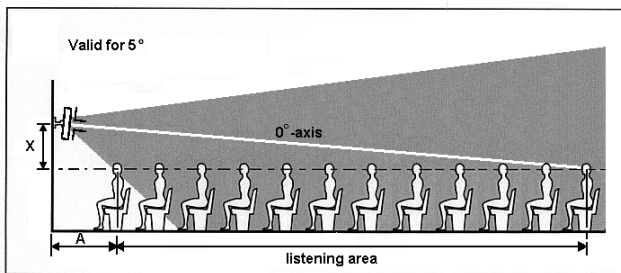

Figure 2: side view of loudspeaker array radiation mounted to the wall with a 5° angle
When less sound pressure level variation is desired, an angle of 5° is recommended. Note that this reduces the size of the total listening area compared to approach 1, and that the space very close to the loudspeaker array ('A' in figure 2) is not part of the listening area. Diagram 1 shows the relationship between 'A' and the mounting height of the loudspeaker array when using a 5° installation angle.
3. Refer to diagram 1, and trace upwards from the maximum distance on the horizontal axis. From the vertical intersection with diagonal B-line, you go horizontal to the vertical axis. The X-value (height of loudspeaker array mounting bracket above the listening plane, 'X' in figure 1) is standing on this axis. The horizontal intersections with other diagonal lines provide information about the dimensions of the listening area. These numbers are related to figures 2 and 3 (see also example below).
4. Figure 2 shows the 1kHz octave shape radiated by the loudspeaker array and figure 3 shows the 4kHz octave shape radiation. The listening area with the optimal acoustic performance is in these shapes. Ensure the 4kHz shape with the dimensions obtained using diagram 1 adequately covers the desired listening area.